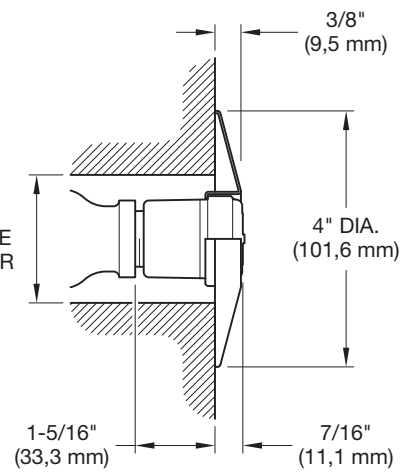

FIGURE 5
Only Escutcheons shown in Figures 5 and 6 can be utilized with TYCO RAVEN Institutional Sprinklers. A maximum of two Spacers can be used to adjust the Escutcheons.
- The sprinkler fitting must be properly located with respect to distance from the face of the sprinkler fitting to the face of the mounting surface (Figures 5 and 6);
Step 6. Ensure that the ceiling/wall is smooth for the escutcheon to sit against and that the distance from the ceiling/wall surface to the sprinkler fitting is appropriate. As shown in Figures 5 and 6, the "face of sprinkler fitting" to "face of mounting surface" dimensions are 1 inch for pendent sprinklers and 1-5/16 inches for horizontal sidewall sprinklers.